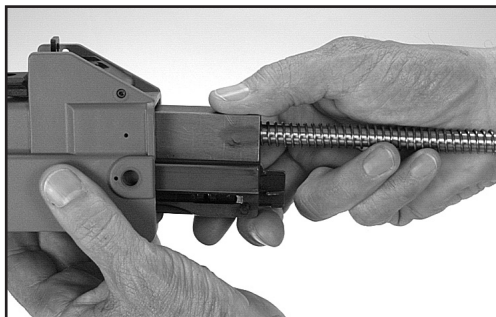

Fig. 25 Removing recoil spring
5. Pull back the cocking lever and remove the recoil spring assembly and the bolt to the rear (figure 25).